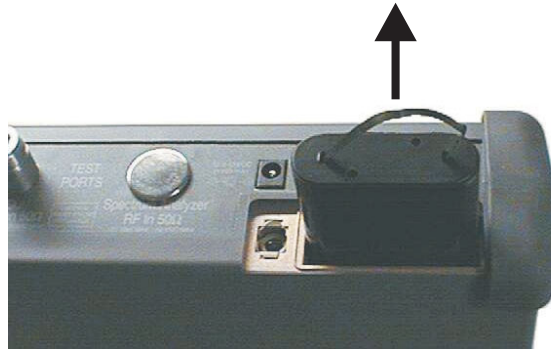

Figure 11. Removing the Battery
3. Lift the door and remove, as illustrated in Figure 11.